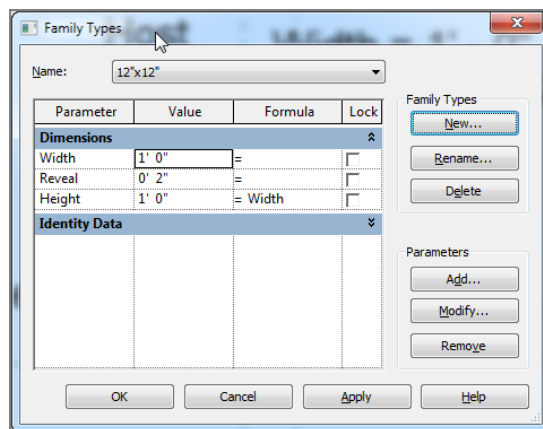

FIGURE 17.10: Creating a new family type
10. Click the New button in the Family Types area, as shown in Figure 17.10.
11. Call the new type 12×12" (300mm×300mm), and click OK (see Figure 17.10).